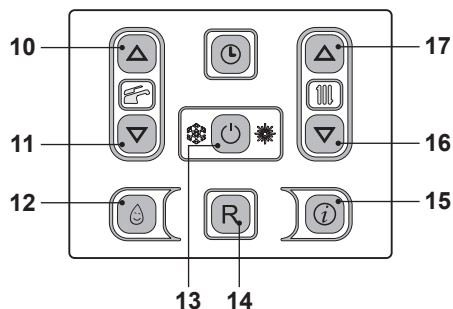
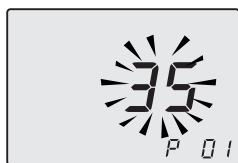

Fig. 8.31
Fig. 8.32
- Enter the "programming mode" by sequentially pressing and holding in keys, 13 - 16 and then 17 (Fig. 8.31) for 10 seconds until the letters **P01** are displayed on the LCD display and the value of the parameter (38=**Inovia 25S ERP**), indicating that "parameter 01" (Fig. 8.32) has been activated.
- Press keys 10 or 11 to change the value and confirm the value of the parameter with key 13.
- Press keys 16 or 17 (Fig. 8.31) to exit without changing the value.